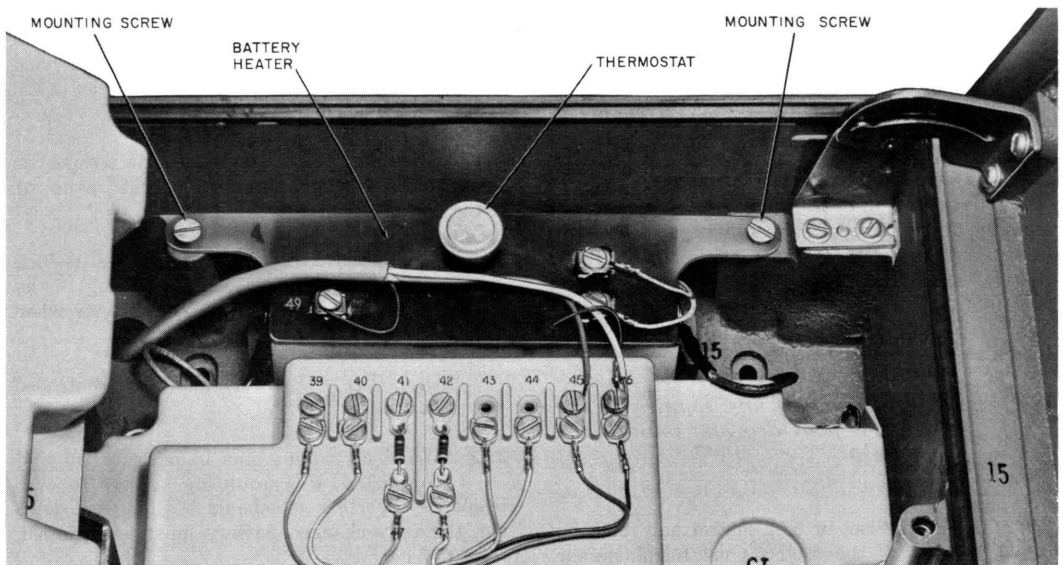

Fig. 4—D-180053 Heater, Installation
- (1) Loop resistance must be less than 1500 ohms.
- (2) Charging current plus line leakage must not cause CO or PBX line relays to operate falsely or keep the line relays operated after a call has been completed by the telephone reporting set or associated telephone set.
- (3) CO or PBX battery, if used, must be 48 volts. (PBX battery must not be turned off at night.)
- (4) Associated telephone, if provided, must not be off-hook for more than 2 hours in any 24-hour period.
(5) Set must be operated in temperatures below 140°F and above 0°F.
(6) A notation of the total charging current in the circuit should be made on the line card for each installation.
If any requirement (1-4) cannot be met, install a 2012B transformer on the customer's premise for charging the battery. If requirement (5) cannot be met, a KS-16886L2 transformer and a D-180053 battery heater, Fig. 4 (replaces the regular battery holder) must be installed on the customer's premise. The KS-16886L2 transformer supplies power for maintaining the battery charge and operating the heater (Fig. 7).